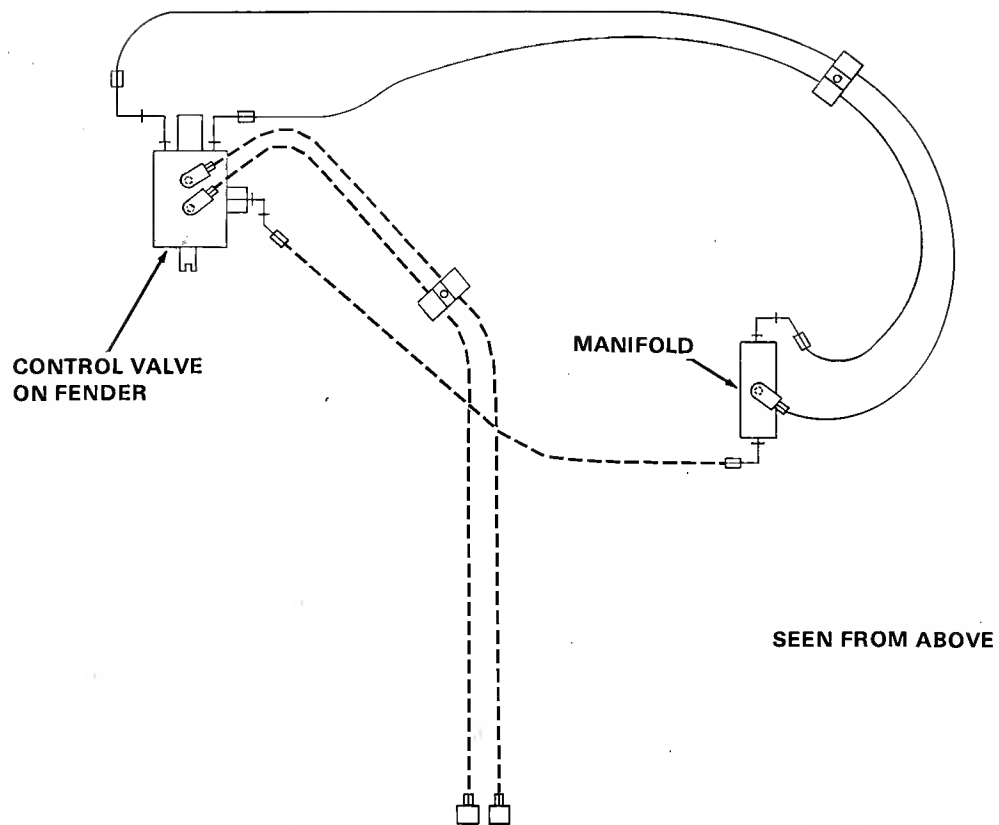

Figure 11. Hose Diagram - Snowthrower
17. If a front-end loader is not install on tractor, perform steps 18 thru 22. If a loader is installed, perform steps 23 thru 25. You may wish to refer to diagrams, figures 11 and 12.